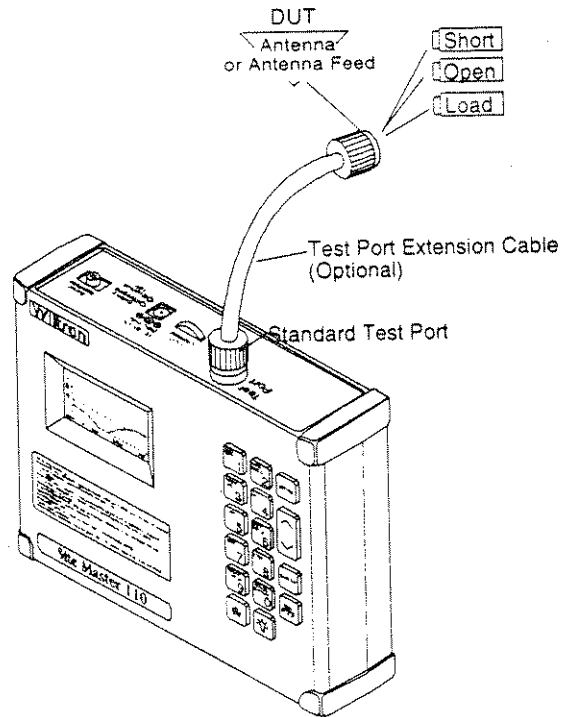

Figure 2-1. Measurement/Calibration Test Setup
- Step 5. Perform a measurement calibration, using the START CAL key and MEASURE OPEN, MEASURE SHORT, and MEASURE LOAD menu options. Connect the respective Short, Open, and Load component to the end of the transmission line (Figure 2-1) prior to selecting the menu option.